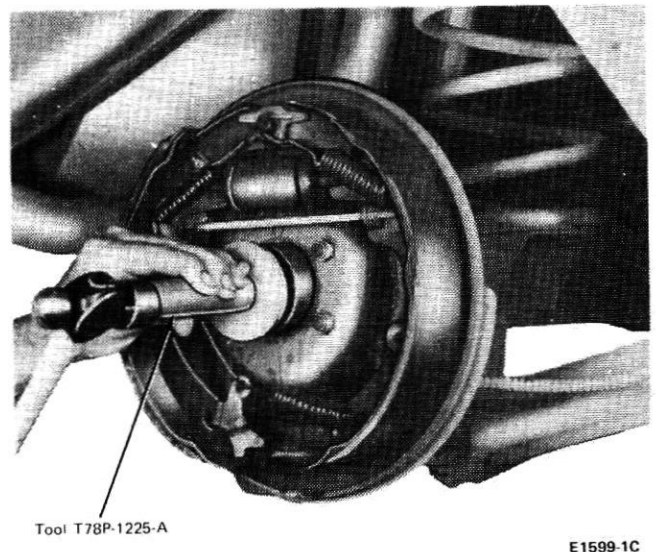

FIG. 6 Installation of Axle Shaft Bearing
1. Lightly coat the wheel bearing rollers with axle lubricant. Install the bearings in the axle housing with the tool shown in Fig. 6.